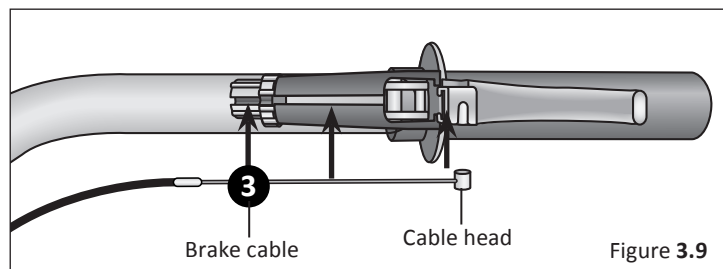

Figure 3.9
- 3** Insert cable head into the brake lever then rotate making sure cable goes through the slots. **Figure 3.9**